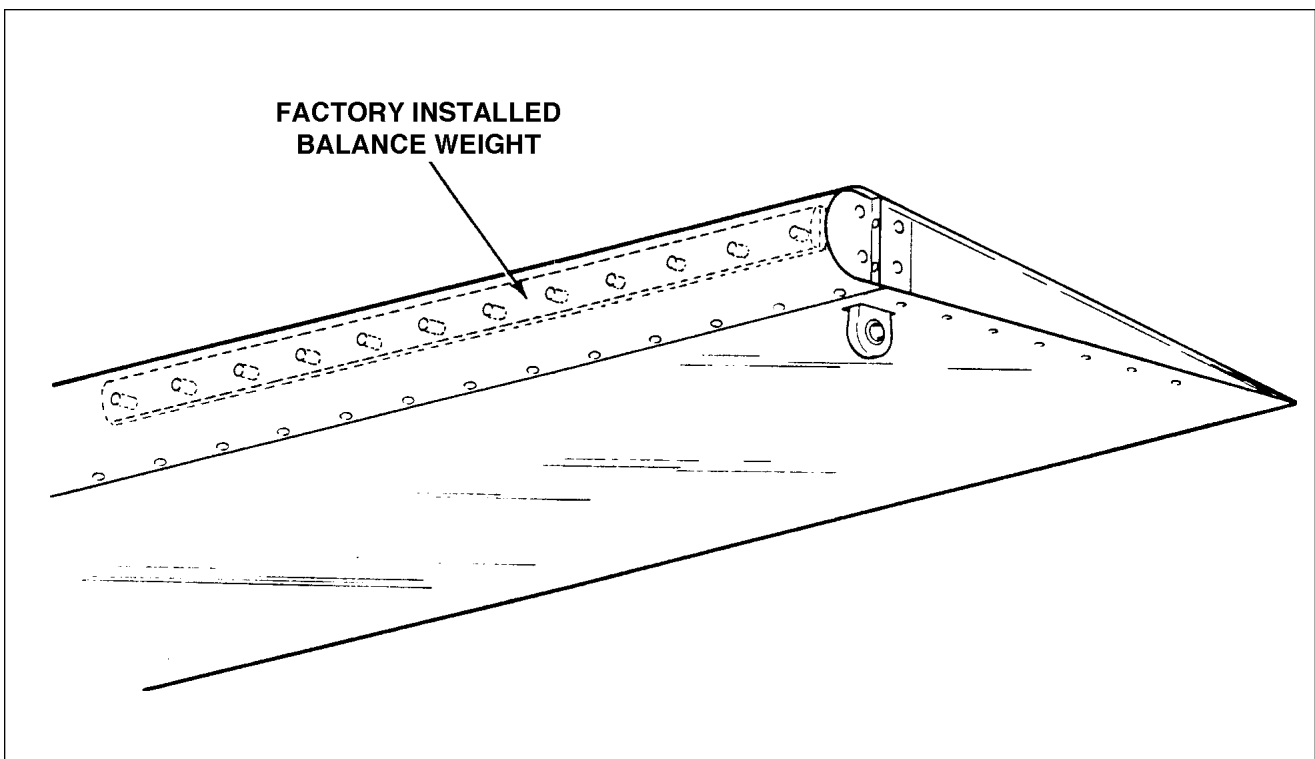

Figure 4-24. Factory Installed Aileron Balance Weight (1974 and 1975 Models Only)
- b. Trailing Edge Heavy: It will be necessary to determine the exact cause of the underbalance. If the aileron is too heavy because of paint build-up, it will be necessary to strip all paint from the aileron and repaint. If the aileron is too heavy resulting from repair to the skin or ribs, it will be necessary to replace all damaged parts and recheck the balance. There are *no provisions* for *adding* weight to the *factory installed balance weight* on 1974 and 1975 ailerons. (Refer to Figure 4-24. ) Balance weights were not installed on 1976 and up models.